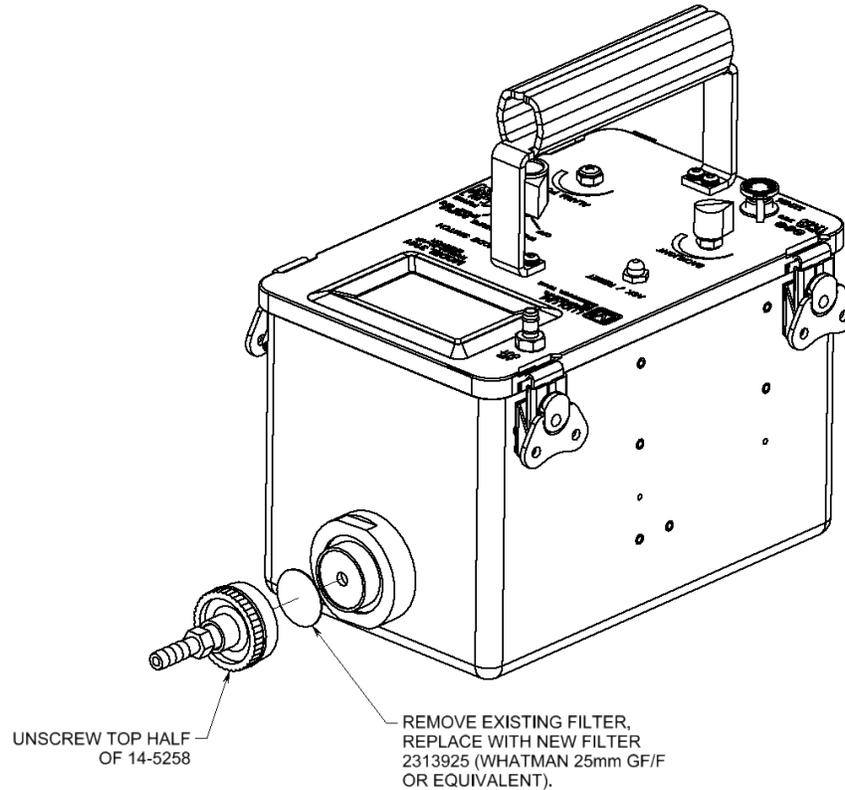

Figure 4-2. Particulate Filter.
4.2.1 Filter. The particulate filter's function is to filter incoming air (see Figure 4-2), capturing dust or other particles that might disturb the tritium measurement. The intake nozzle on the instrument is connected to the filter. The filter may become clogged over time, restricting the airflow, and need to be replaced. See Section 5.5 for replacement instructions.